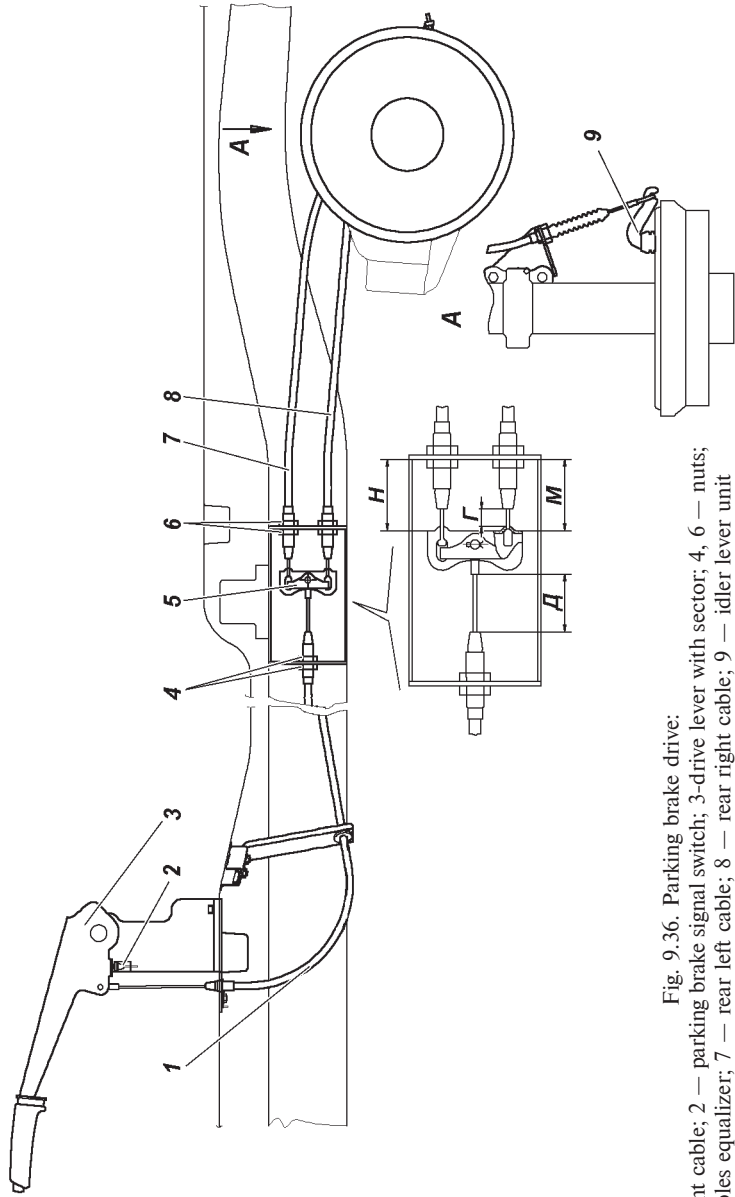

Fig. 9.36. Parking brake drive:
Wheel parking brake, affecting the brake shoes of rear wheels (Fig. 9.36).
3. Set the parking brake lever 3 in the lower position (Fig. 9.36).